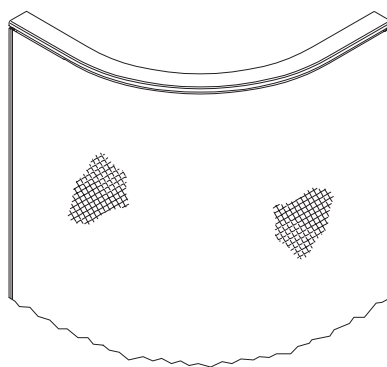

FIG. 2
1. To install the curved panel top cap, carefully slide a top cap sleeve into each end of the curved top cap, and into the adjoining top cap. Push straight down on the curved top cap to connect the dual-lock tabs (Figure 2).